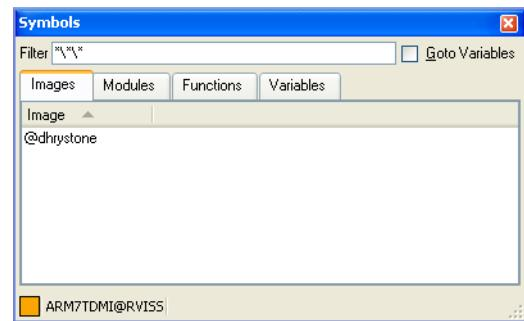

Figure 13-4 Symbols view
1. Select **Symbols** from the **View** menu to display the Symbols view. Figure 13-4 shows an example. If you have loaded multiple images to the target, then all the images are listed.
1. Select **Symbols** from the **View** menu to display the Symbols view. Figure 13-4 on page 13-11 shows an example.